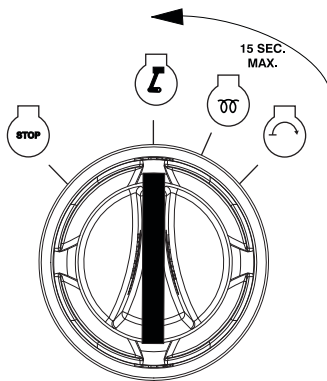

Figure 3-9. Release Key
- See Figure 3-9. Release the key, it will move to the RUN position.